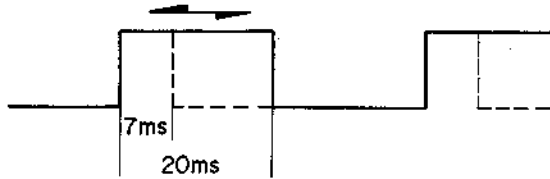

Fig. 11
- (3) Connect Oscilloscope to Test Point TP-2. When Tracking Control is changed from minimum to maximum, confirm that the Pulse Width change is from about 7 ms to 20 ms (Fig. 11).